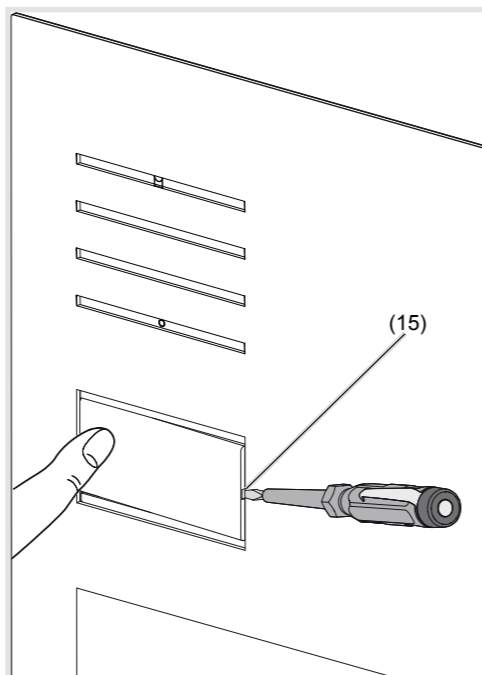

Figure 3: Removing name plate cover
- Position the screwdriver in the lever opening (15) and release the interlock (Figure 3).